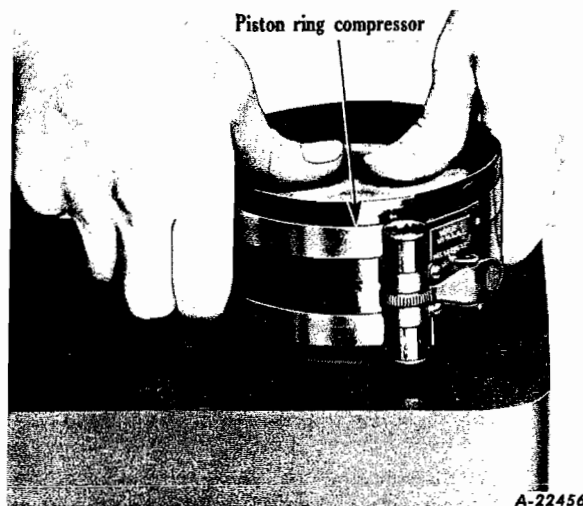

Fig. 49
1. Install one connecting-rod and piston assembly down through top of cylinder block having slot in piston towards camshaft side of engine. Pistons are also marked with an arrow indicating front of engine. Use a piston ring compressor sleeve to compress piston rings and thus avoid possible ring damage (Fig. 49).